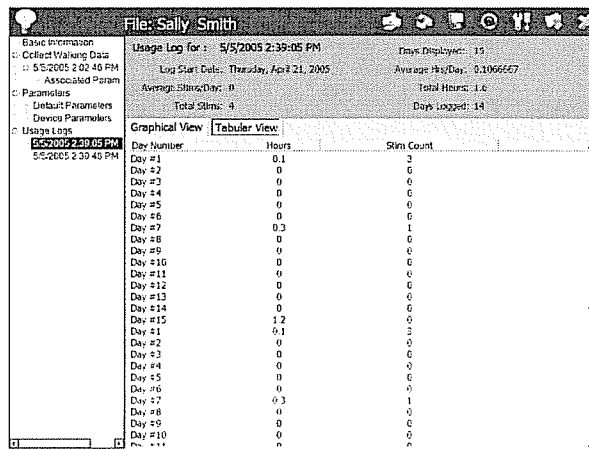

Figure 33 – Usage Log Tabular View screen.
3. In the 'Graphical View', two sections of bar graphs will appear (Figure 33). The top blue bar graph shows the **total hours of stimulation each day** while the bottom red bar graph shows the **total number of stimuli per day**. The stimuli from the exercise mode are NOT included. If desired, the vertical sliders on the left of the graphs may be used to change the scale of the graphs by dragging it up and down. This would be used in the event that the graph was either too small to be readable or contained bar graphs that reached the top of the displayed information.
4. In the 'Tabular View', the days, hours and stimulation count are listed in a chart (Figure 33).